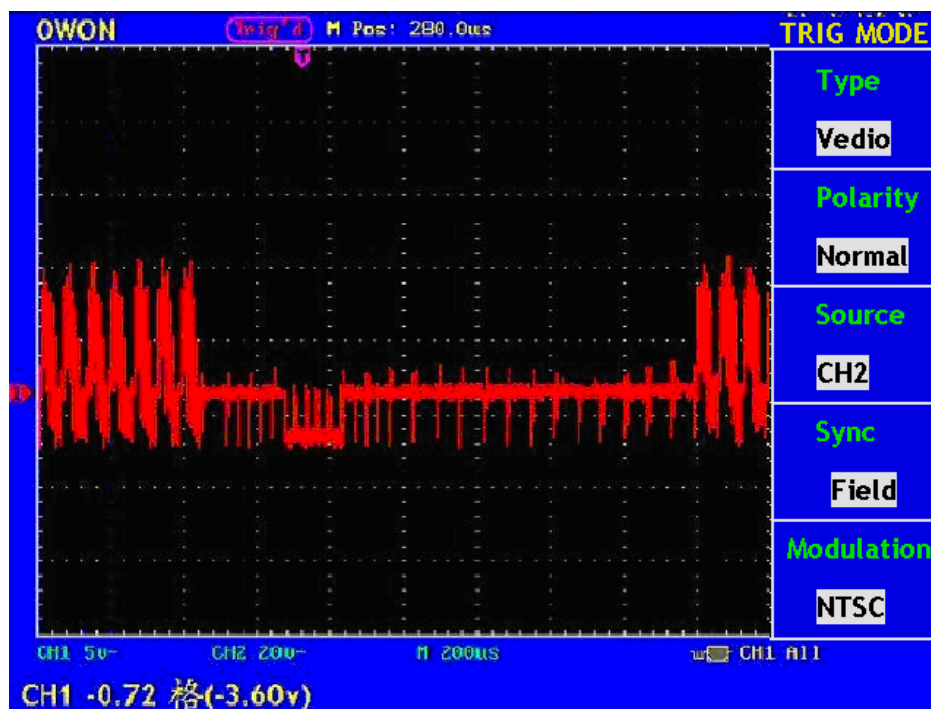

Fig. 37 Video field trigger Oscillogram
- 5、Press F4 to choose synchronization as “Field” (refer to Fig.37)